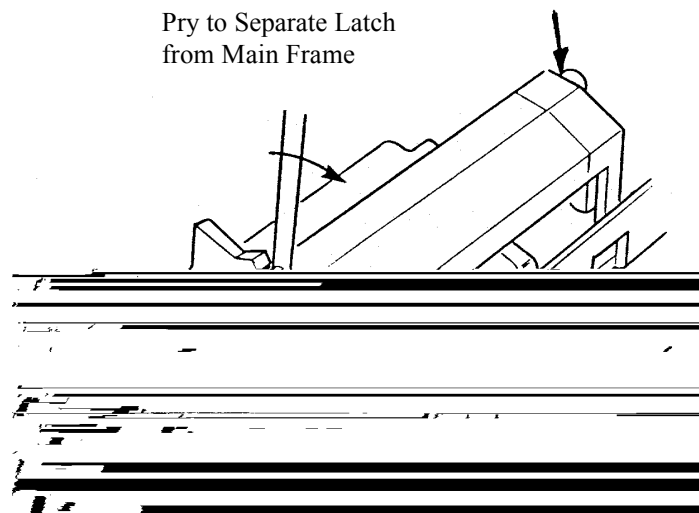

Figure 4-14b Removing the Door Latch
- 1. Referring to Figure 4-14b, remove the Door Latch.